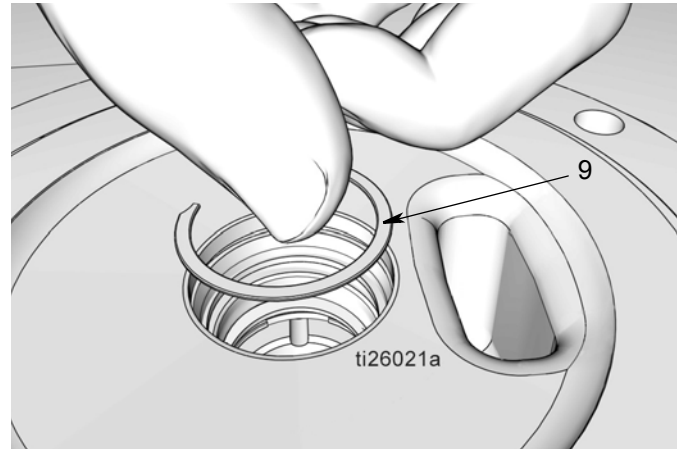

FIG. 38
- j. Install clip (9) (FIG. 38). You should hear a “click” when the retaining clip is correctly seated in the groove.